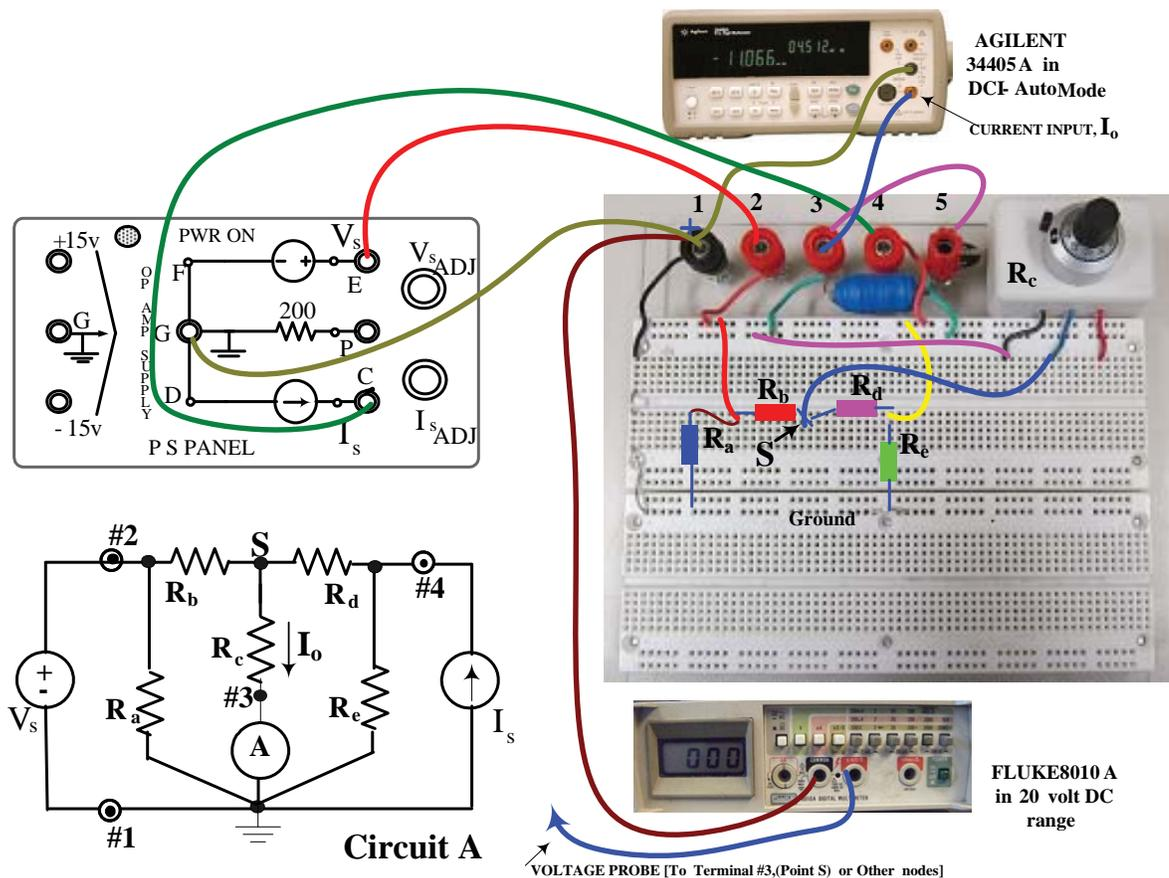

Figure 2.6: Setup for the verification of the Superposition Theorem
1. With the PSP still not turned on, connect the breadboard terminals #1, #2 and #4, respectively, to the ground, V_s and I_s supply outputs on the PSP as shown in Figure 2.6. On the PSP, set both output control knobs at 4-to-8 turns from the extreme CCW (minimum) position. This will result in a V_s output between 4 to 9 Volts and an I_s output in the range of 20 mA when the PSP is turned on. [The values of V_s and I_s obtained are not necessary for the Superposition theorem investigation, but may be calculated from node voltage measurements at points 2, 4 & S].
($=R_{ZY}$) to a specific value between 200Ω and 300Ω . This value will be used for R_c in the test circuit of Figure 2.6.
- 3 . Construct the circuit “A” on the breadboard using the suggested available resistance values. for the other fixed resistors. A suggested layout is shown in Figure 2.6. The layout shown in Figure 2.6 need not be copied exactly by the student, but the variable resistor should be used for R_c .
Record the various R values used for your reference. When building the circuit, terminals # 1, # 2 and # 4 shown on the circuit must be arranged to correspond with the identically numbered buses (terminals) on the breadboard shown in Figure 2.6 for ease of reference. As shown, the point S is connected through R_c to terminal #3. The ammeter A (DMM) is connected between terminal #3 and Ground. Terminal #5 should be left unconnected, except for the inductor-shorting link..